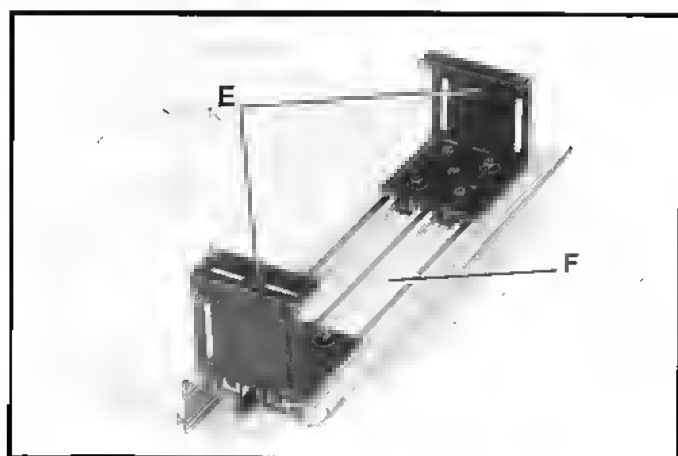

Fig. 22
2. Slide the two mounting brackets (E) Fig. 22, onto the bottom of table extension (F), as shown. A key is supplied on the mounting brackets that engage with the keyway underneath the table extension. Mounting brackets (E) should be loosely assembled to the table extension at this time.